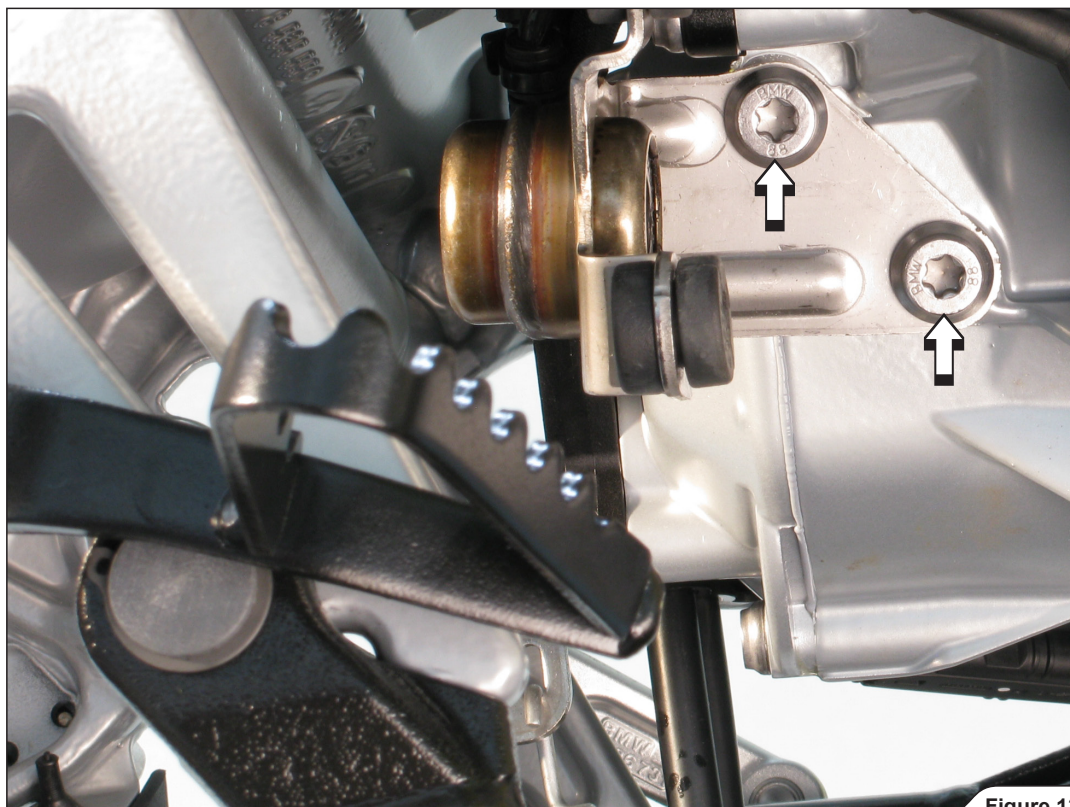

Figure 13
10. Unscrew the marked bolts and remove the header's rubber bracket off the motorcycle (**Figure 13**).